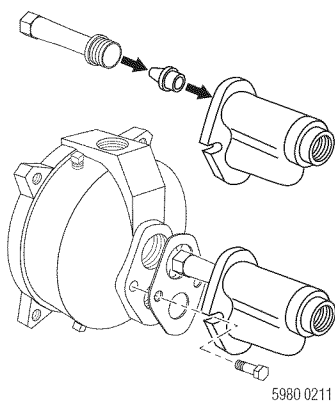

Figure 6: Mount Ejector – Shallow Well
- Step 3. Install the ejector kit. Follow the instructions provided with the kit. Be sure to align the venturi with the top hole on the front of the pump (see Figure 6).
- Step 2. Install the ejector kit. Follow the instructions provided with the kit. Align the venturi with the top hole on the front of the pump (see Figure 6).